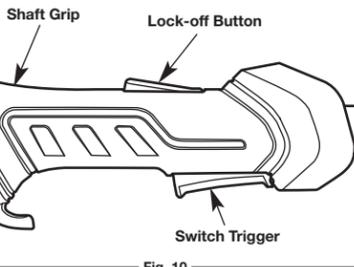

Fig. 10
2. Press and hold the lock-off button (Fig. 10). This makes the switch trigger operational.
3. While holding the lock-off button, press and hold the switch trigger (Fig. 10).